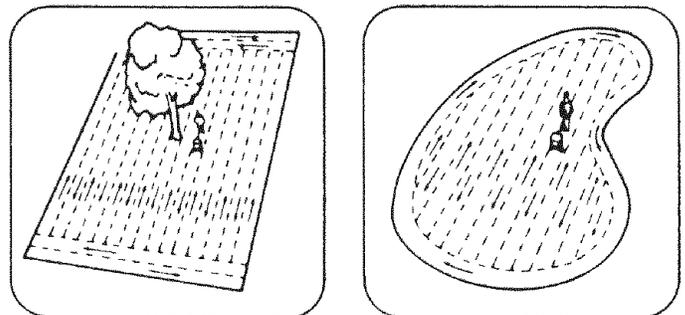

FIGURE 12
- For easiest application, spread across the shortest edges of lawn first, making two "header" strips for a turning area, and then spreading between the header strips. See figure 12.
- If lawn is odd shaped, spread a border around the edges and then spread between the border. See figure 12.